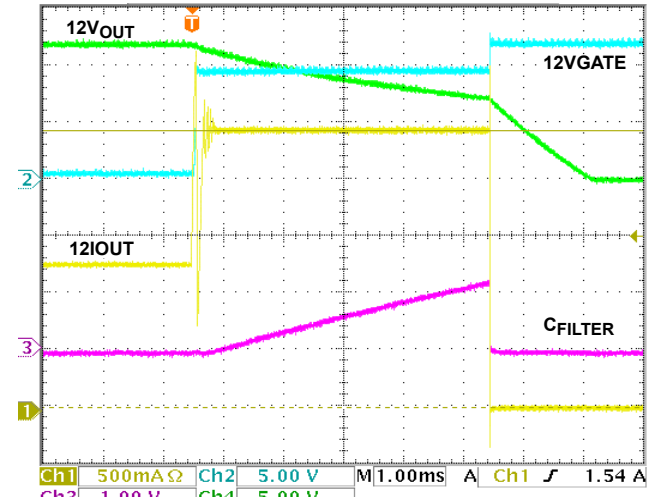
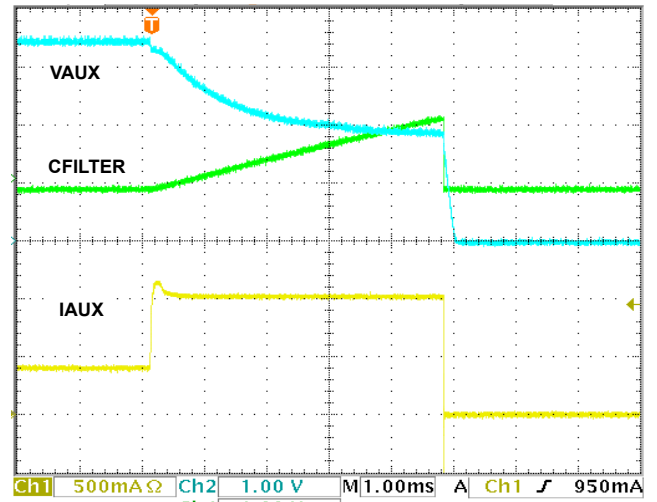

FIGURE 12. ISL6113 12VMAIN CR AND SHUTDOWN
FIGURE 16. VAUX OC REGULATION AND SHUTDOWN
The ISL6113, ISL6114 provides a current limiting function that protects the input voltage supplies against excessive current loads, including short circuits during turn-on (MAIN supplies shown in previous Figures 3 through 11) and during static operation for both MAIN (Figures 12 through 15) and AUX supplies (Figures 16 and 17). When during static operation, any load current causes  $>V_{THLIMIT}$  (nominally 50mV) drop across a sense resistor thus exceeding the programmed CR limit, the
The VAUX outputs have a different circuit-breaker function. The VAUX circuit breakers do not incorporate a fast-trip detector, instead they regulate the current into a fault to avoid exceeding their operating current limit. The circuit breaker will trip due to an overcurrent on VAUX when the programmable CR duration timer,  $t_{FLT}$  expires. This use of the  $t_{FLT}$  timer prevents the circuit breaker from tripping prematurely due to brief current transients. See Figures 16 and 17 for illustrations of the VAUX protection performance into an over current (OC) and more severe OC condition respectively. The ISL6113, ISL6114 AUX current control responds proportionally to the severity of the OC condition resulting in appropriately fast VAUX pull down and current regulation until  $t_{FILTER}$  has expired.